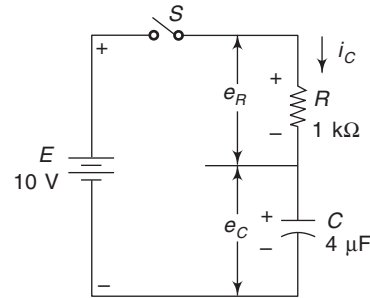

Fig. 8.8
8.5 Calculate the levels of capacitor voltage e_c in the circuit given in Fig. 8.8 at 2 ms intervals from the instant the switch S is closed. Plot a graph of e_c versus time. $E = 10 \text{ V}$, $C = 4 \mu\text{F}$, and $R = 1 \text{ k}\Omega$.
8.6 Determine the instantaneous levels of charging current in the circuit shown in Fig. 8.8 at 2 ms time intervals from the instant that switch S is closed. Plot a graph showing i_c versus time.